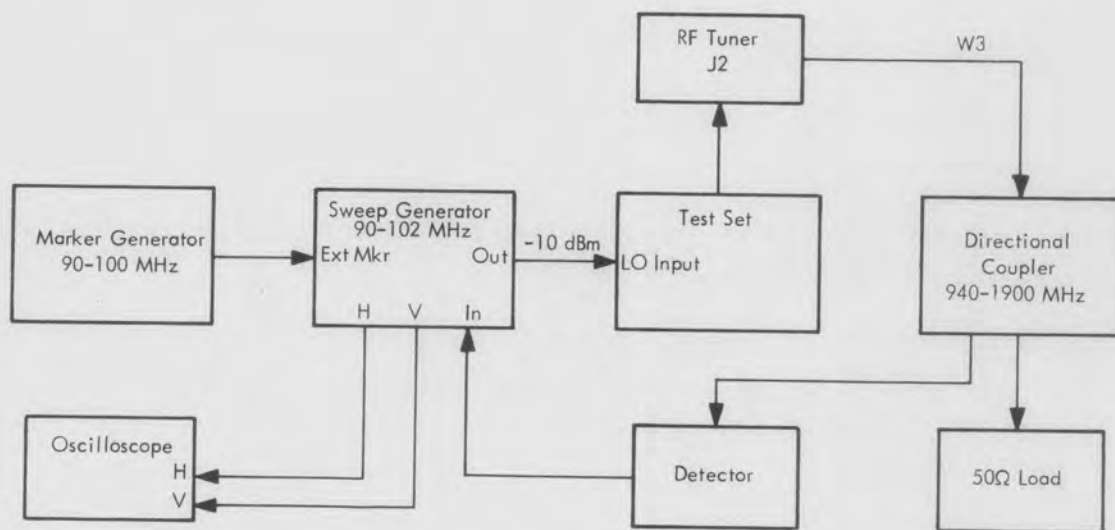

Figure 5-2. Multiplier Response, Test Equipment Setup
- (1) Set up equipment as shown in figure 5-2. Set controls as follows: